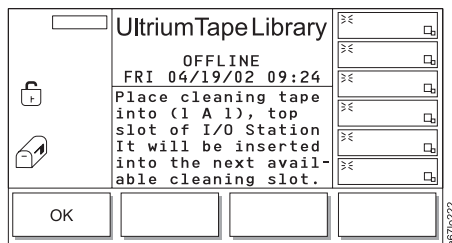

Figure 14-60. Cleaning Tape screen
4. If no cleaning cartridge is present in the library (each of the three rectangular boxes contain no shading), import a cleaning cartridge by pressing the button below the **Import** softkey. The Cleaning Tape screen displays (see Figure 14-60).